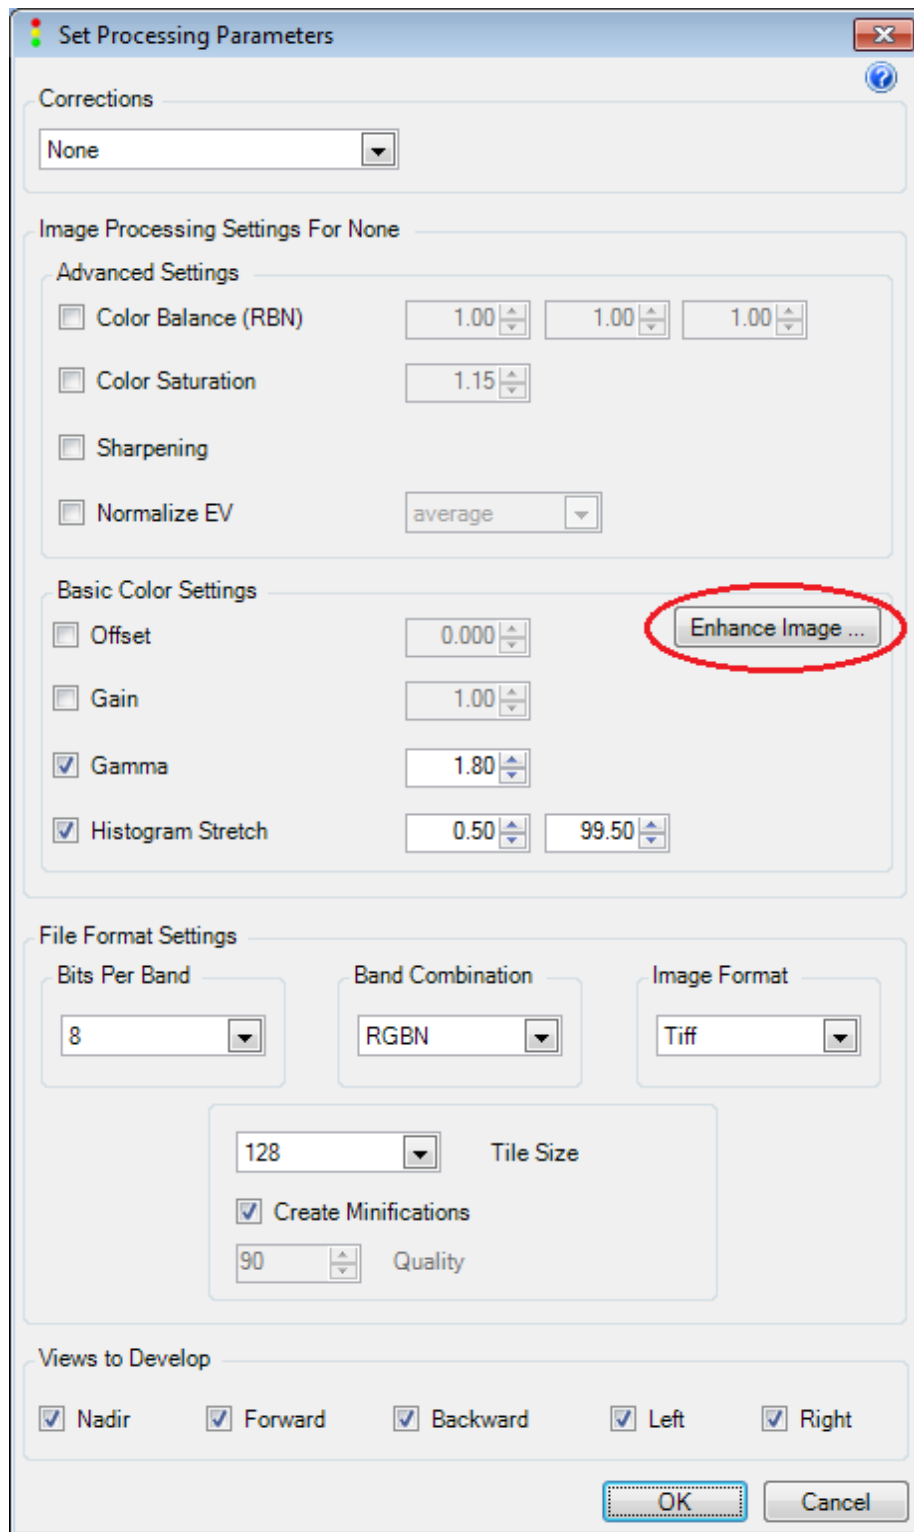

Fig. 1.16
- a) Add a photocenter or strip entity to the working set and run the checklist step 'Set Processing Parameters' (Fig. 1.12). Once the dialog is displayed, click the button 'Enhance Image...' (Fig. 1.16).
- c) Once the photo has been processed, the *Before* block will get updated with the dark raw image (OffsetGainGamma : 011) while the *After* block gets updated with the image (NADIR) having the settings as stored on the corresponding attributes on the 'Set Processing Parameters' dialog (Fig 1.16).